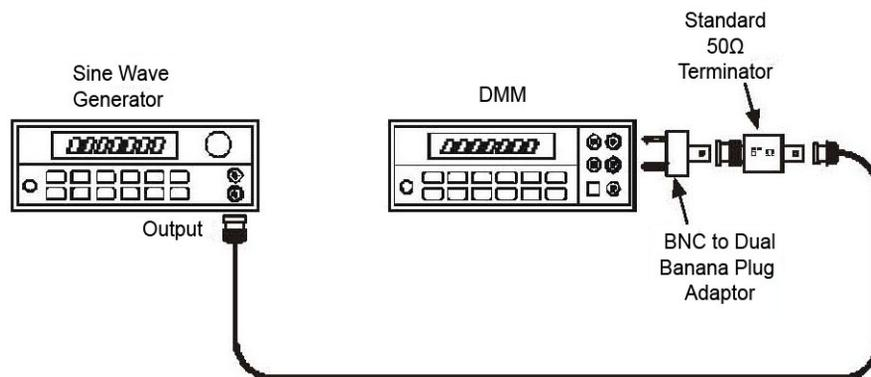

Figure 14, ± 10 Attenuator Accuracy Test Setup 1.
4. Connect the terminated output cable from the sine wave generator to the DMM using the BNC to Banana Plug adaptor. Refer to Figure 14.